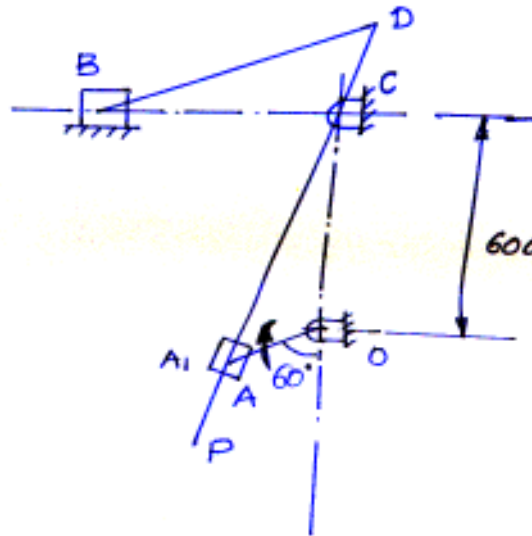

Fig. 4
6. In the mechanism shown in Fig. 4, crank OA rotates uniformly at 10 rad/sec in clockwise direction.